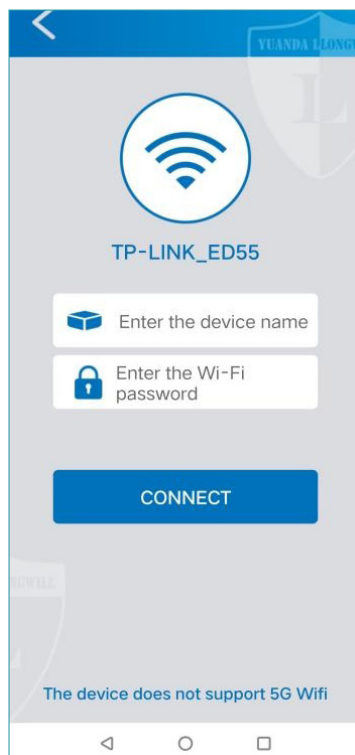
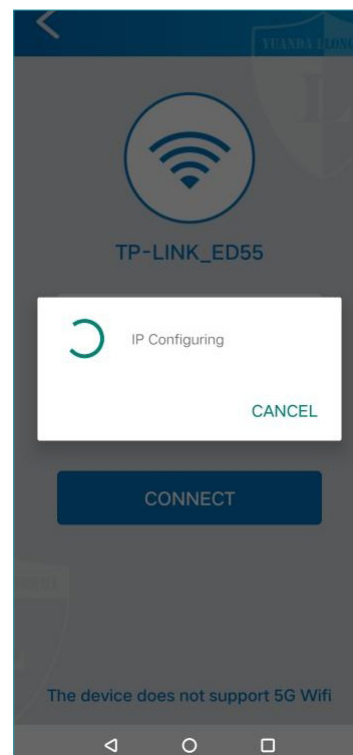

Figure 21
Figure 22
5. Scan the QR code with the App and enter the device network configuration interface. In the network configuration interface (as shown in Figure 21), the user should first name the device. If the user is using more than one device, it is recommended to use numbers to distinguish each device, such as Class Room1, Class Room 2, etc. After completing the device naming, enter the wireless network password that the current mobile phone is connected to, and then click "Connect" to start automatic configuration. The network configuration would take some time, please be patient (as shown in Figure 22).